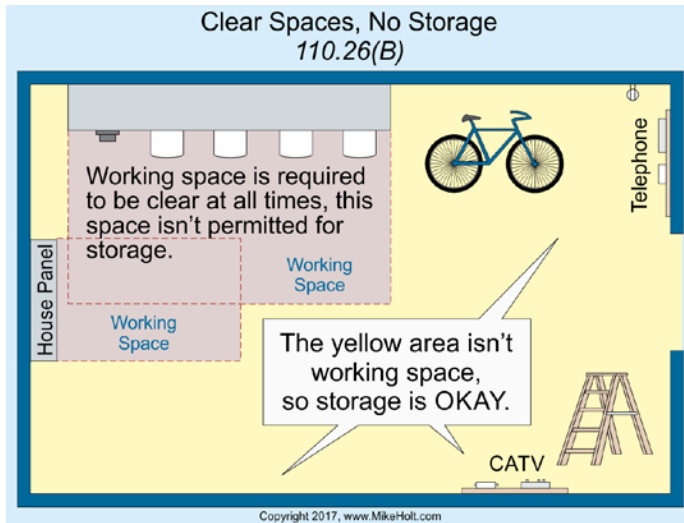

Figure 110-37
(4) Limited Access. Where equipment is likely to require examination, adjustment, servicing, or maintenance while energized is located in a space with limited access, all of the following conditions apply:
- (a)(1) Above Suspended Ceiling. Equipment installed above a suspended ceiling must have an access opening not smaller than 22 in. x 22 in.
- (a)(2) Crawl Space. Equipment installed in a crawl space must have an accessible opening not smaller than 22 in. x 30 in.
(B) Clear Working Space. The working space required by this section must be clear at all times. Therefore, this space isn't permitted for storage. Figure 110-37